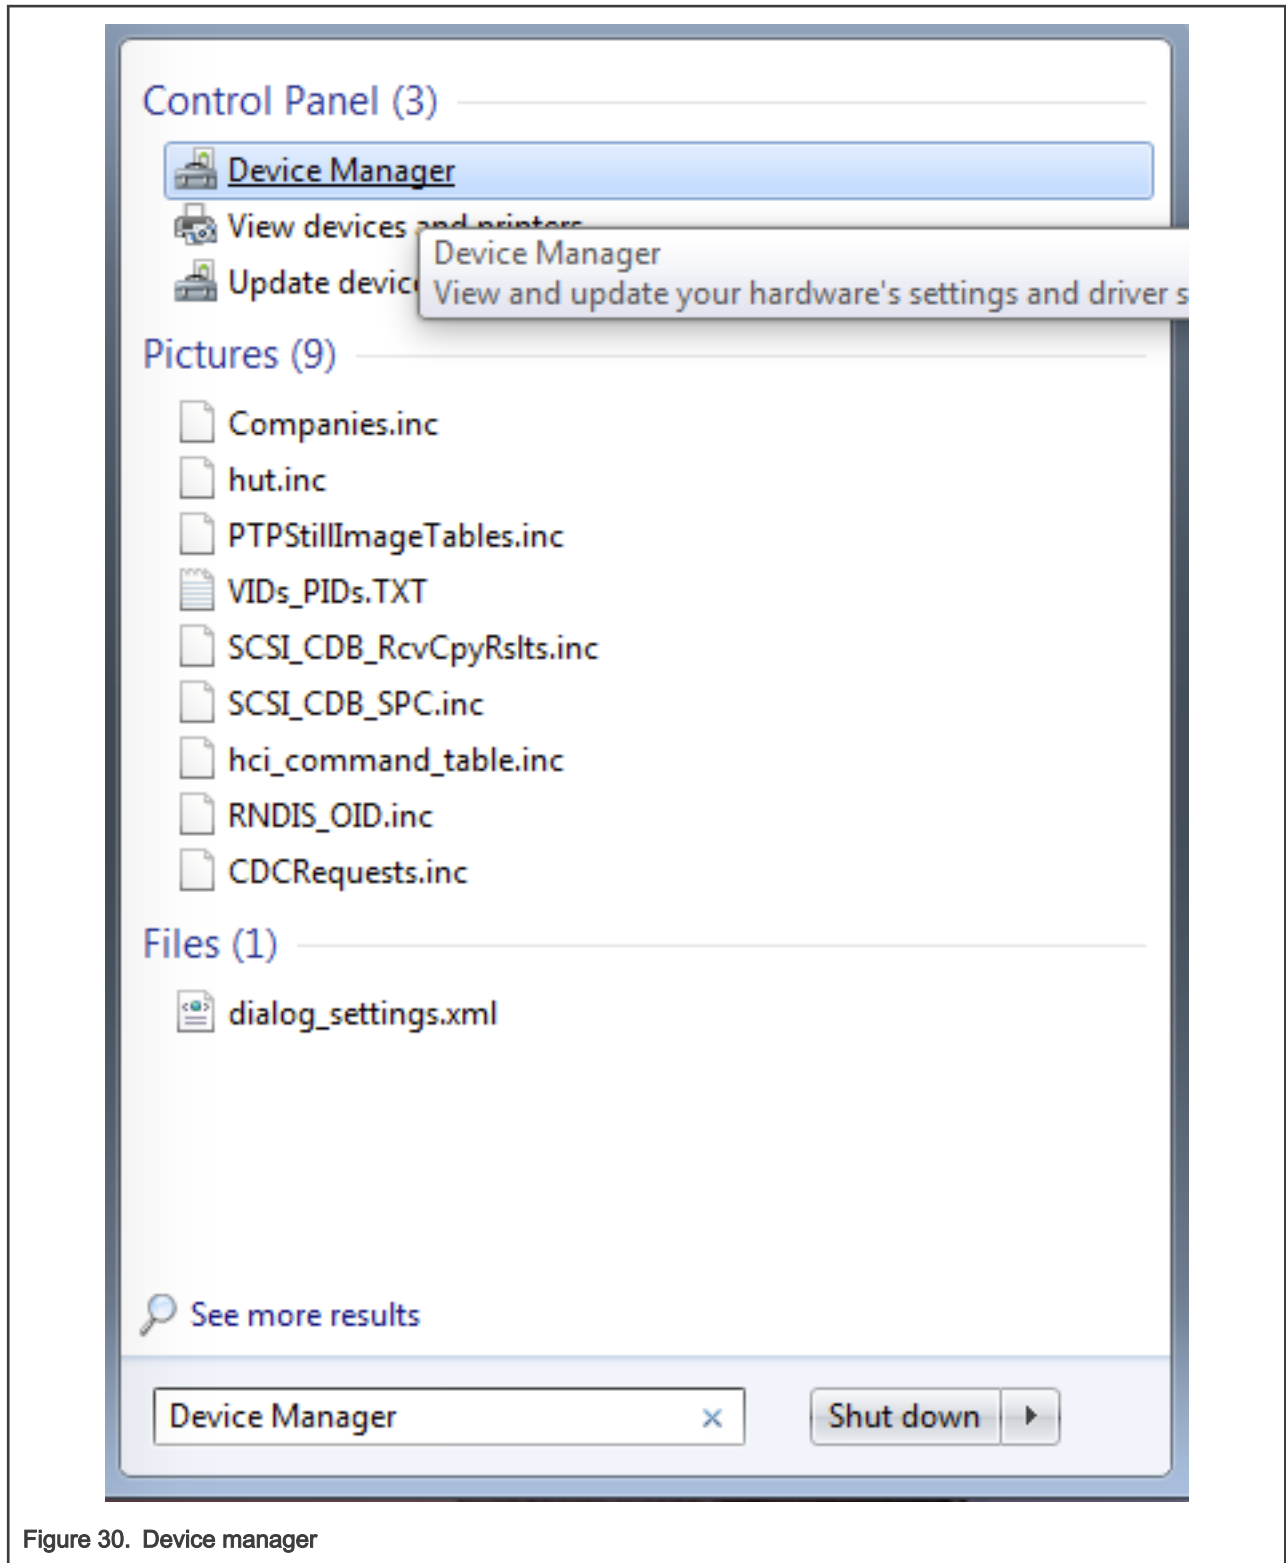

Figure 30. Device manager
1. To determine the COM port, open the Windows operating system Device Manager. This can be achieved by going to the Windows operating system Start menu and typing **Device Manager** in the search bar, as shown in Figure 30.